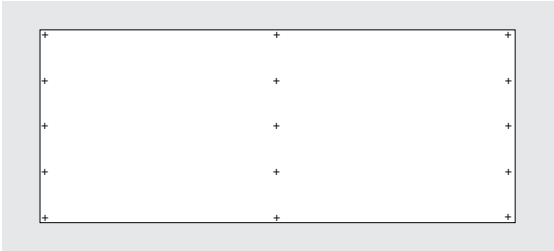

Figure 2: Fastening Pattern
- 3. Offset board and fasten through first layer, penetrating 1" into framing members (i.e., girts or purlins) with corrosion-resistant fasteners and poly washers. Each board should span at least three framing members. The maximum span is 5' for a 1" thick board (Contact DuPont Customer Information Group for additional thickness spannability). Fasteners should be spaced 12" on center in three rows of five fasteners per 48" board width (Figure 2).
Fasteners should be spaced 12" on center in three rows of five fasteners per 48" board width (Figure 2).
1. Offset insulation board a minimum of 6" in both directions and fasten through the first layer, penetrating 1" into framing members (i.e., girts or purlins) with corrosion-resistant fasteners and poly washers. Each board should span at least three framing members. The maximum span is 5' for a 1" thick board (Contact DuPont Customer Information Group for additional thickness spannability). Fasteners should be spaced 12" on center in three rows of five fasteners per 48" board width (Figure 2).